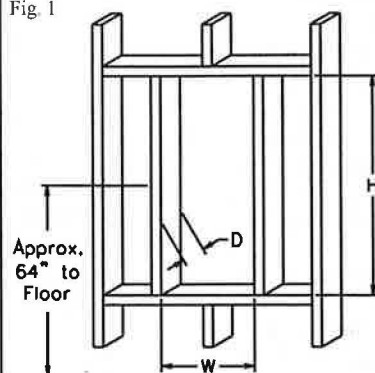

Fig. 2
- 4) Prepare the mounting screws by placing the screws into the clear plastic bases. (Figure 2)